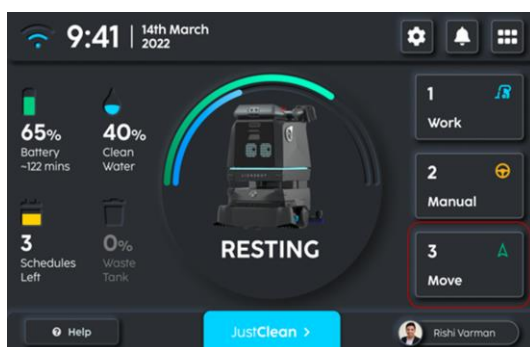
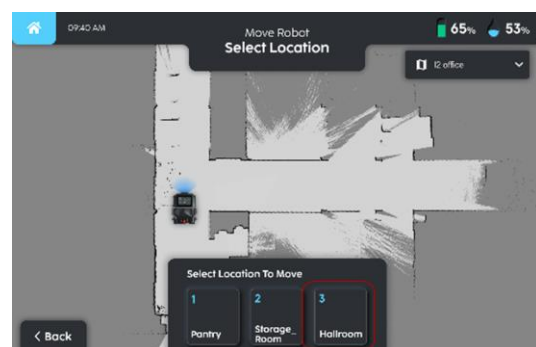

FIGURE 9-5
FIGURE 9-6
1. Use the 'Move' option (Fig. 9-5) on the 'Home' page to select a point on the map (Fig. 9-6) for the robot to move to from its current location.
2. The Move page allows the user to select a pre-set point to move to from the bottom selection ribbon (ex. 'Hallroom' in Fig. 9-6) or provide a custom location by clicking on the map.